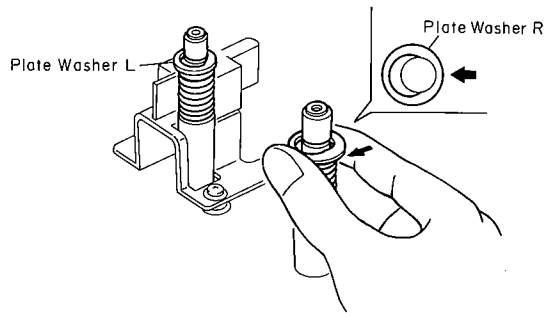

Fig. 2.11.1
Note: When mounting the Head Mount Base Ass'y, follow the next steps. Refer to Figs. 2.11.1 and 2.11.2.
- (a) Insert the Plate Washer into the groove of the shaft as shown in Fig. 2.11.1.